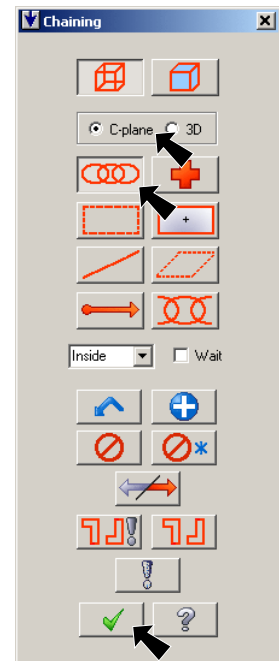

Fig. 7
Step 5. Select **C-plane** in the Chaining dialog box, **Fig. 7**.
Step 6. Click **Chain** button  in the Chaining dialog box, **Fig. 7**.
Step 5. Select **C-plane** in the Chaining dialog box, Fig. 7.
Step 6. Click **Chain** button  in the Chaining dialog box, Fig. 7.